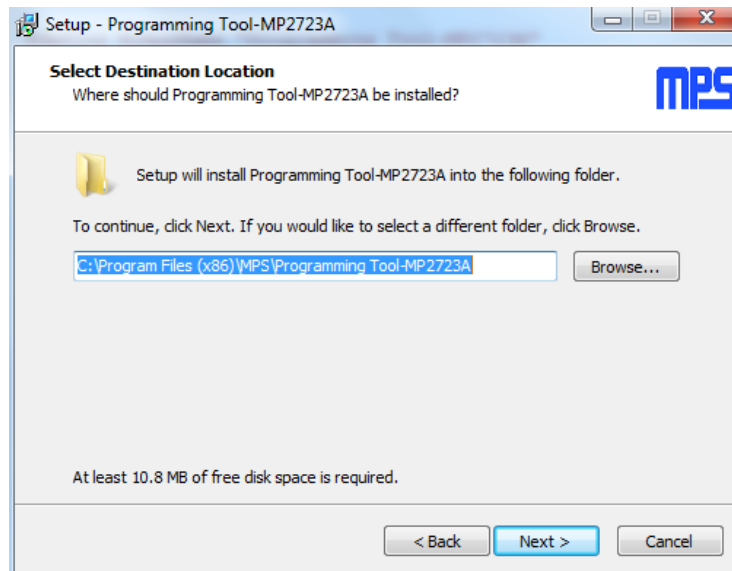

Figure 4: MPS I²C GUI Set-Up Guide
2. Double-click the “.exe” file to open the software (see Figure 4). If a protection window comes up, click “More info,” then click “Run anyway.”